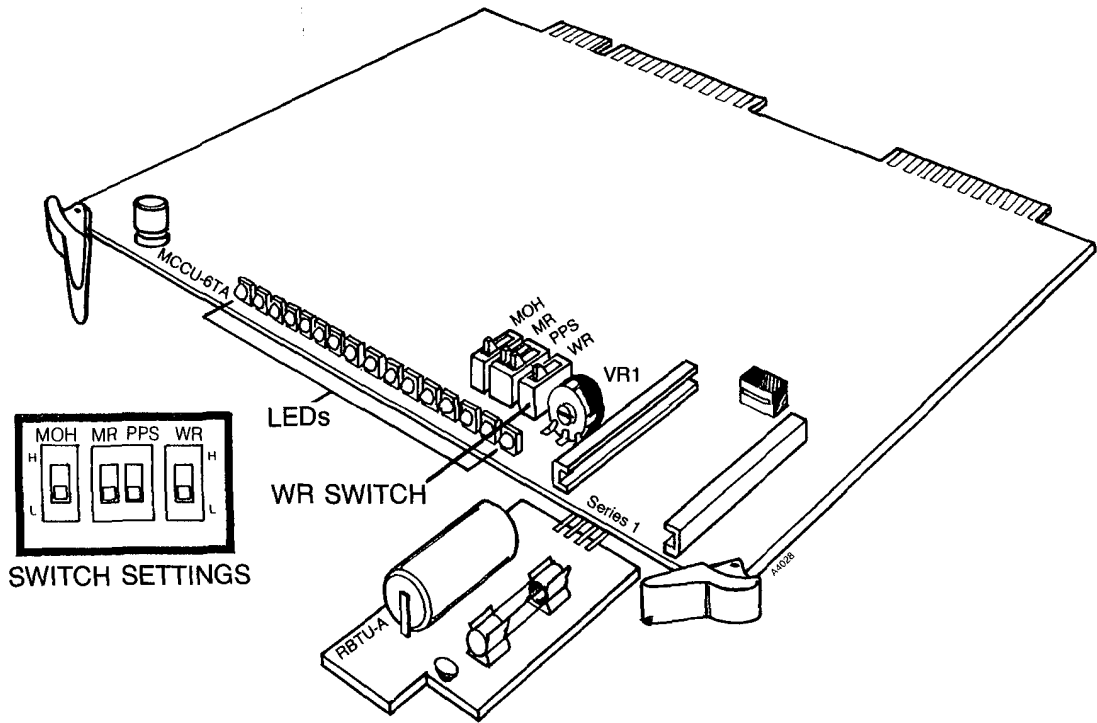

Figure 6-1 WR SWITCH LOCATION ON MCCU-6TA PCB, EK-616
**1.03** Two elements used in Initialization and Programming are labeled WR. The WR switch is located on the MCCU-6TA PCB in the KSU, and the WR button is located under the designation strip of the Executive Display Key Telephone. Throughout this section, these elements will be designated WR switch ( MCCU-6TA PCB ) and WR button ( Executive Display Key Telephone ), Figures 6-1 and 6-2 respectively.
- *The WR switch (MCCU-6TA PCB--Figure 6-1) must be set to H.*
- *The WR switch ( MCCU-6TA PCB ) must be in the L position ( see Figure 6-1, inset ).*